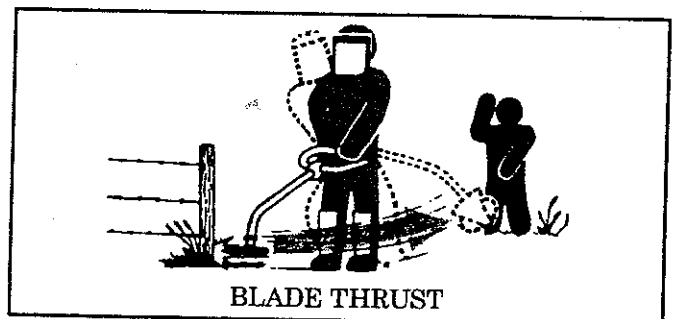

Figure 11
1. **WHAT CAUSES BLADE THRUST.** *Blade Thrust* can occur when the spinning blade contacts an object that it does not cut. This contact causes the blade to stop for an instant and then suddenly move or "thrust" away from the object that was hit. The "thrusting" reaction can be violent enough to cause the operator to be propelled in any direction and lose control of the tool. The uncontrolled tool can cause serious injury if the blade contacts the operator or others. Figure 11 .